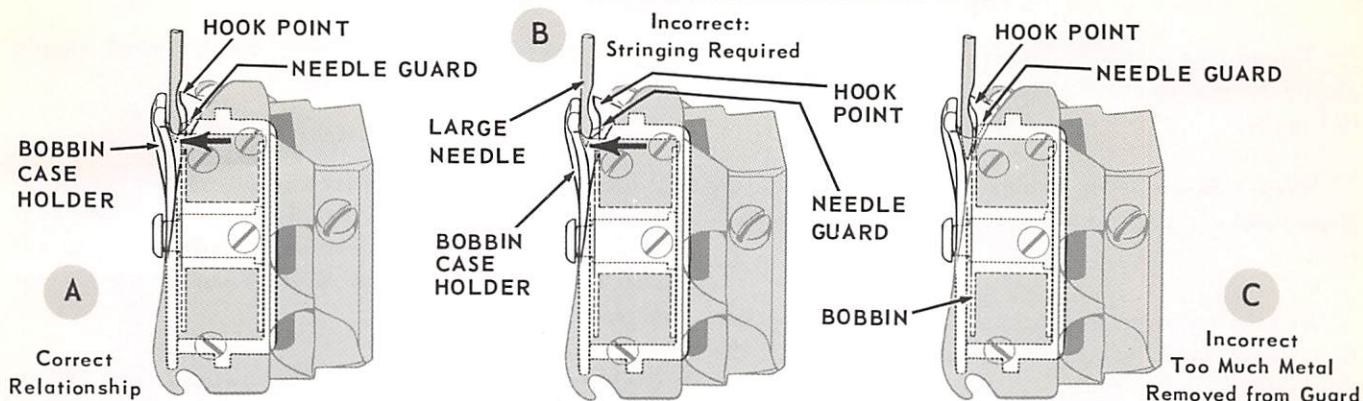

Fig. 30. Needle Guard at Loop-Taking Time
The needle guard on the bobbin case holder, shown in Figs. 30 and 33, should prevent needle from contacting hook or bobbin case at any time. See Fig. 30 (A) for correct relationship. When large needles (size 20 or larger) are used, needle guard may deflect needle too far toward left resulting in damage to needle. See Fig. 30 (B). To avoid this, it may be necessary to string the needle guard in accordance with the following instructions.
EXTREME CARE should be taken to avoid removal of too much metal as this may permit needle to strike hook. See Fig. 30 (C). Bobbin case holder will then need replacement.